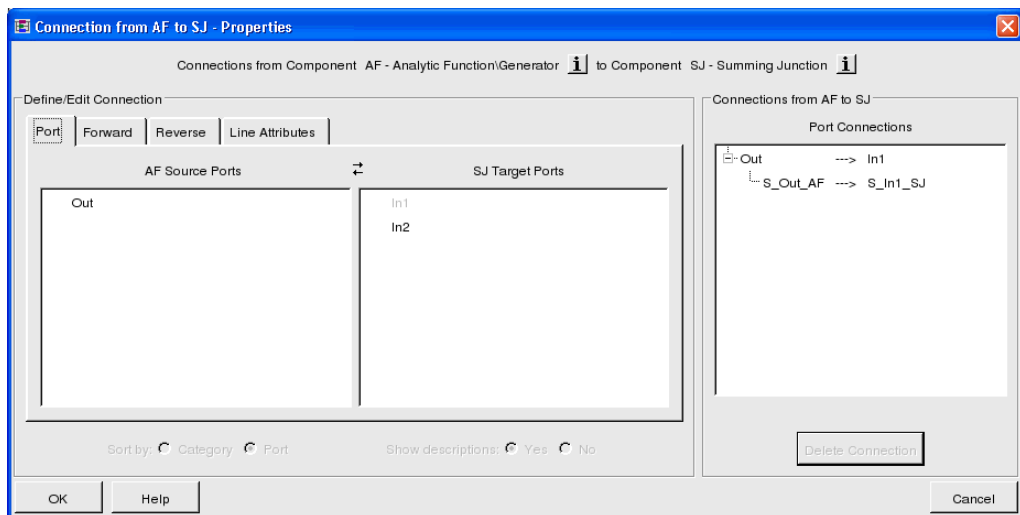

Figure 31 Connection Data Table for the AF -> SJ Connection
1. Specify the direction of the connection by first selecting the From component (AF) and then selecting the To component (SJ). A port connection table opens, as shown in Figure 31.
A Connection Data Table will appear similar to the table shown in Figure 31. To complete a custom connection, select the appropriate output name from the first column of the connection table. Then select the respective input name in the second column.